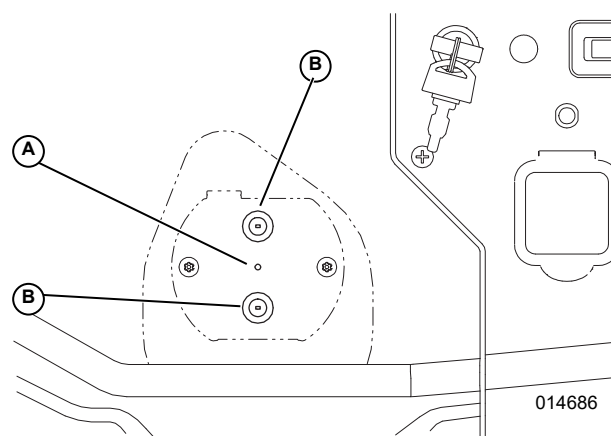

Figure 4-24. CO Module Test Switch and LEDs
1. See **Figure 4-24**. With the generator running, insert the blunt end of a 3/64" drill bit into test switch hole (A).